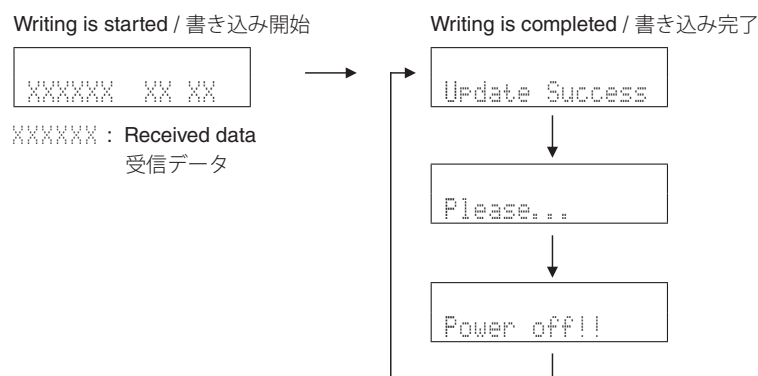

Fig. 3
Writing of the firmware starts automatically. (Fig. 3)
3. When writing of the firmware is completed, "Update Success", "Please..." and "Power off!!" are displayed repeatedly. (Fig. 3)